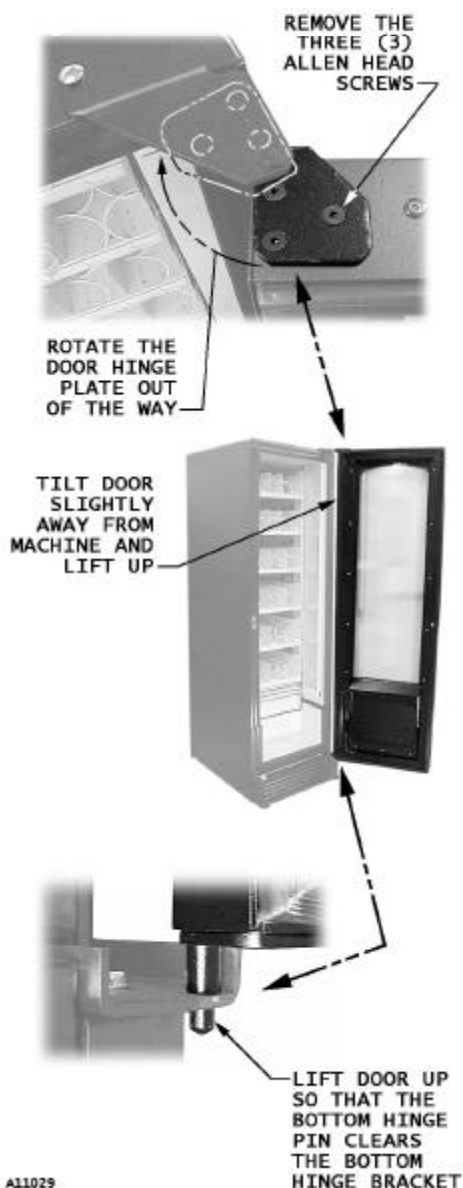

Figure 9.1. Removing the door
1. Open the door until you can see all three (3) Allen Head Screws of the Top Hinge Door Plate (as viewed from the top of the machine). See **Figure 9.1**.
2. One person should hold on to the door to prevent it from tipping while the another person removes all three (3) Allen Head screws from the Top Hinge Door Plate.